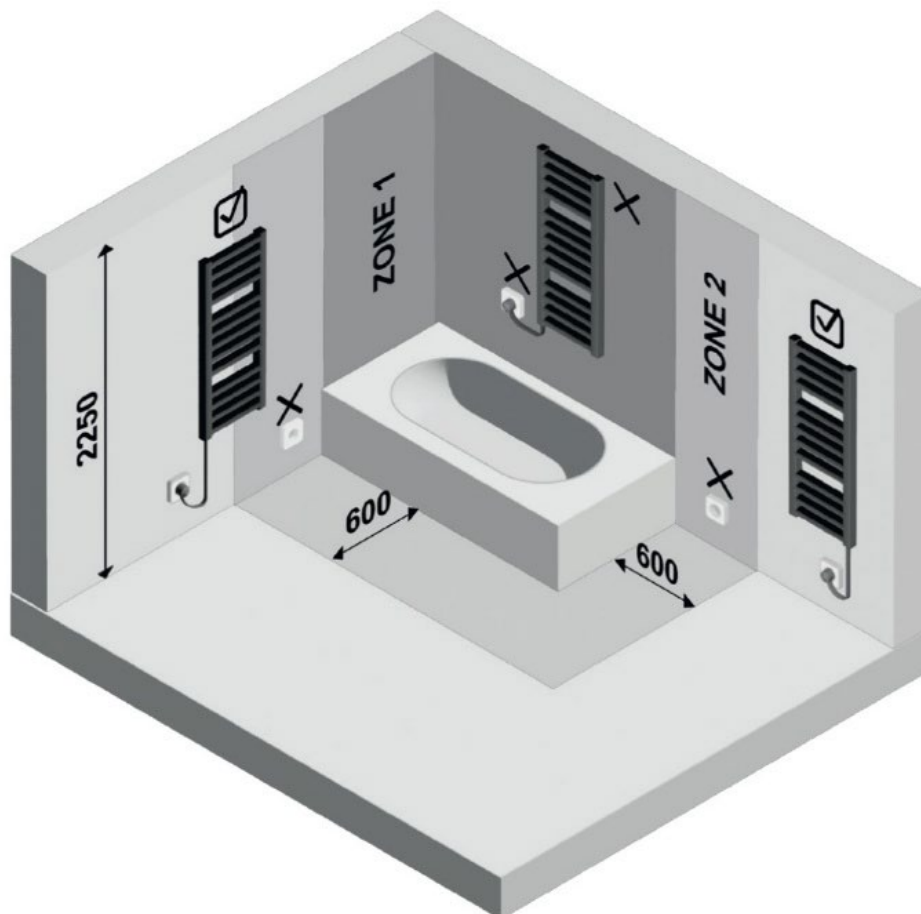

Figure 3
- Do not install the controller in a towel rail located in Zone 0 or Zone 1 (Zone definitions per IEC 60364-7-701 – see Figure 3). Any alternative placement is the responsibility of the installer and must be properly tested.